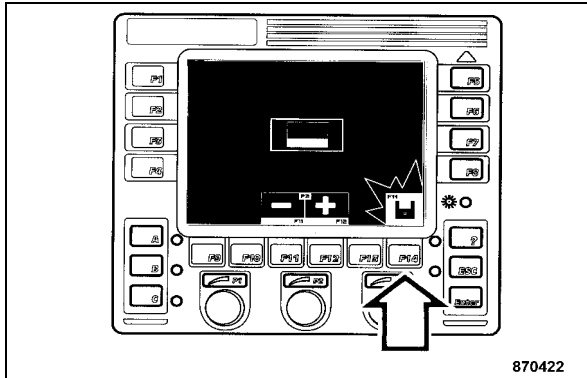

Fig. 87
- Press key "F14" to save the language setting (Fig. 87). The "Save" symbol on the screen lights up green for a moment as confirmation.